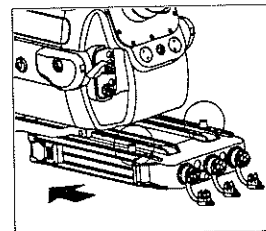

Figure 15
3. Insert the rails of the BLX-55W battery module into the channels for the rubber feet. Push the battery module forward until the index pins touch the bottom of the VX-2000PRO. (Figure 15)